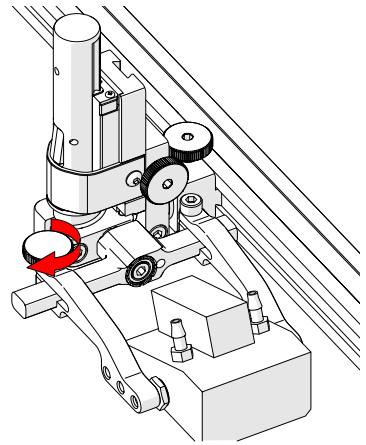

Fig. 94 - Tighten arm knob
6. Tighten the probe holder arm adjustment knob (Fig. 94).